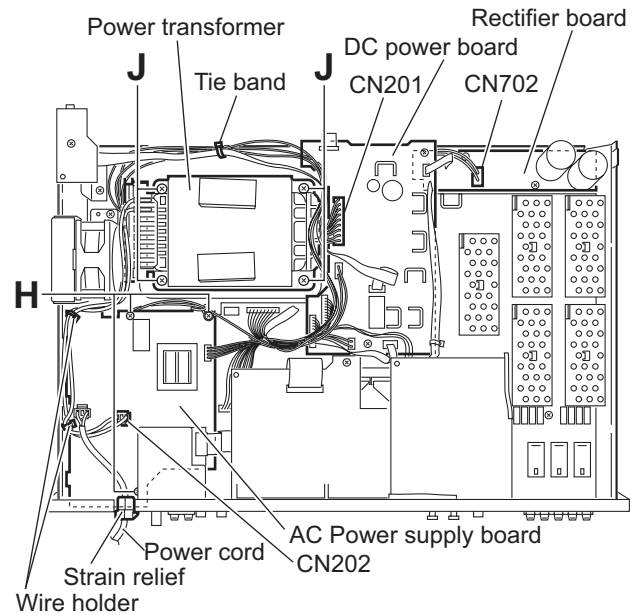

Fig.11
3.1.8 2.1.8 Removing the power transformer (See Fig.11)